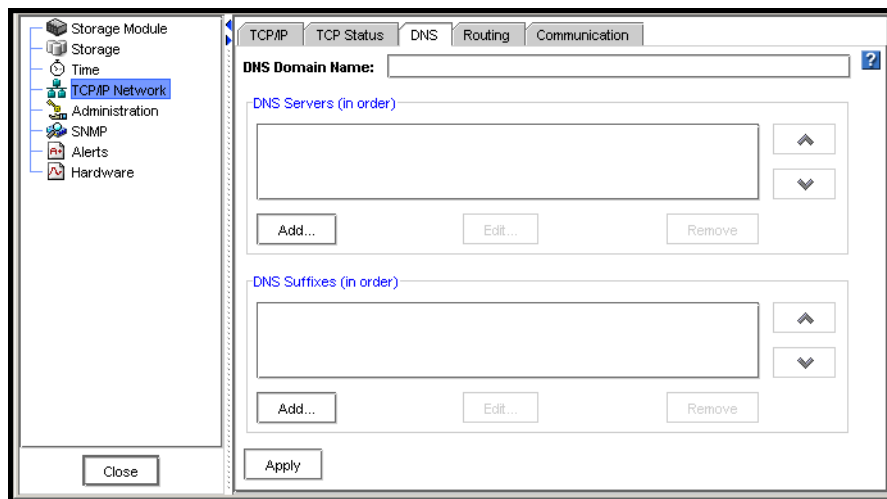

Figure 68. Adding DNS Servers
3. Click the DNS tab to bring it to the front, shown in Figure 68.